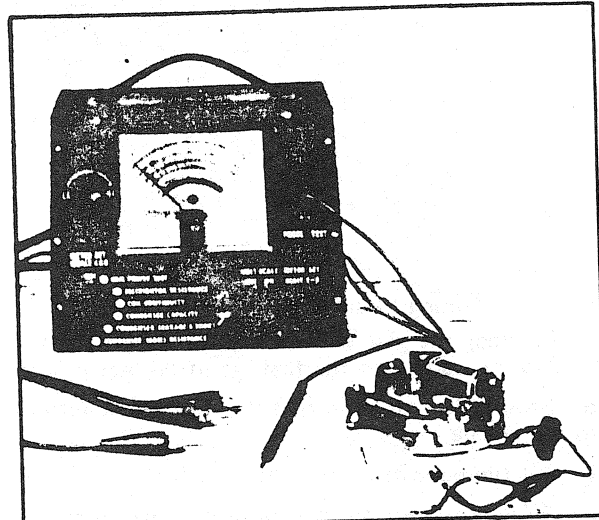

FIGURE 1
**WARNING:** When testing any components, place your Merc-O-Tronic analyser as well as the components on an insulated or wooden table top. This will prevent any leakage or shock hazards. (Fig. 1).